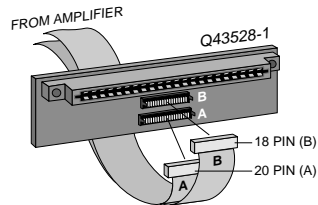

Fig. 3.3 *PIP2* Input Adapter Connection
2. Remove the existing *P.I.P.* module or panel (two screws). For *PIP2* amplifiers, this may involve disconnecting the *P.I.P.* from a *PIP2* input adapter (see Figures 3.3 and 3.4). If a *PIP2* input adapter is already present, do not remove the ribbon cables from the adapter. Otherwise you will have to reconnect them in the next step.
PIP2 Amplifiers: (Requires a *PIP2* input adapter. Crown part number Q43528-1.) Connect the *PIP2* input adapter to the two input cables of the amplifier (see Figure 3.3). Notice that the *PIP2* input adapter should be positioned with the *P.I.P.* edge connector on top and facing away from the amplifier. The 20-pin cable (A) is connected first then the 18-pin cable (B) is connected. Both